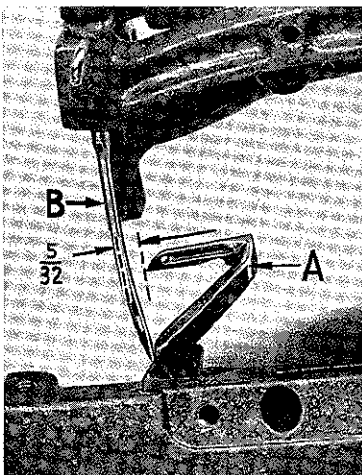

Fig. 3
The looper gauge is the distance between the point of the looper (A, Fig. 3) and the center of the needle (B) when the looper is in its extreme position to the right. This distance should be $\frac{5}{32}$ " (Fig. 3).